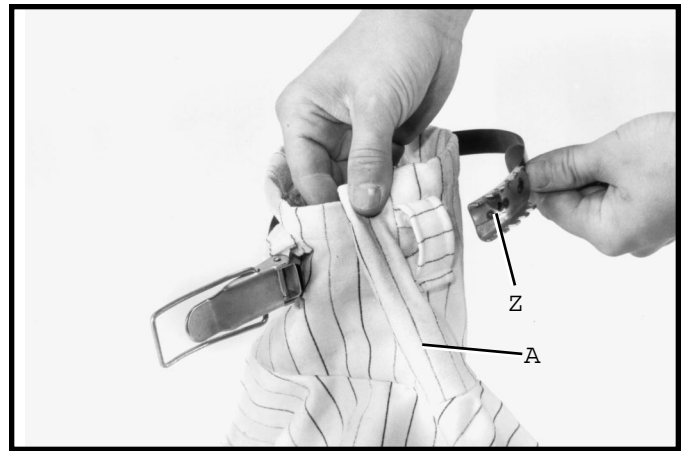

Fig. 16
10. Insert the bag clamp (Z) Fig. 16, through the loops of the dust bag (A).